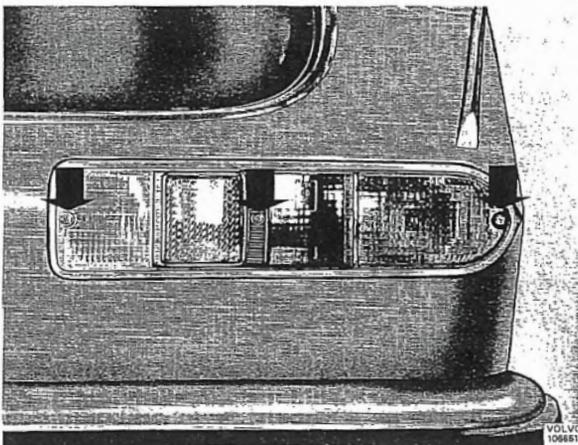

Fig. 3-88. Removing rear light
1. Unscrew the screws holding the glass, see Figs. 3-88.